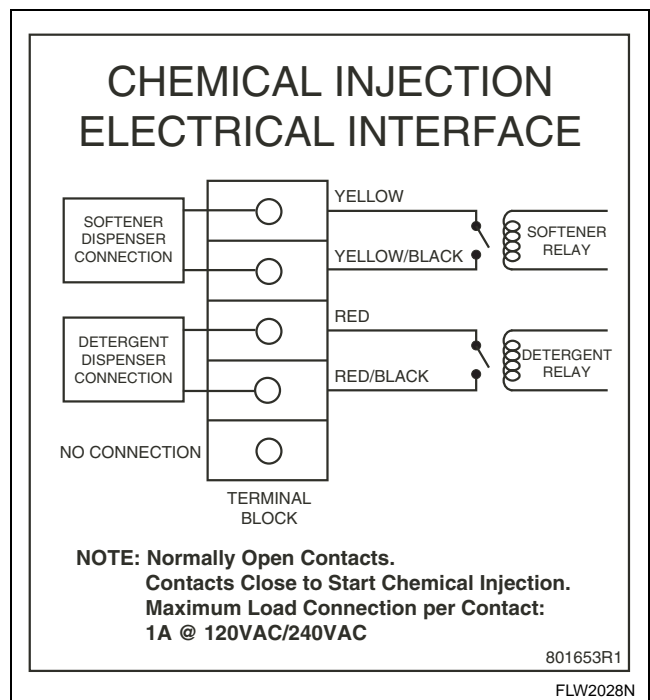

Figure 12
4. Refer to supply injection system instructions and label inside washer junction box cover (*Figure 12*) for electrical connection.
A junction box on the rear panel houses a terminal strip which furnishes supply output signals for the supply injection pumps. These are dry contacts. Voltage needs to be supplied. Refer to *Figure 12* for the injection interface label.